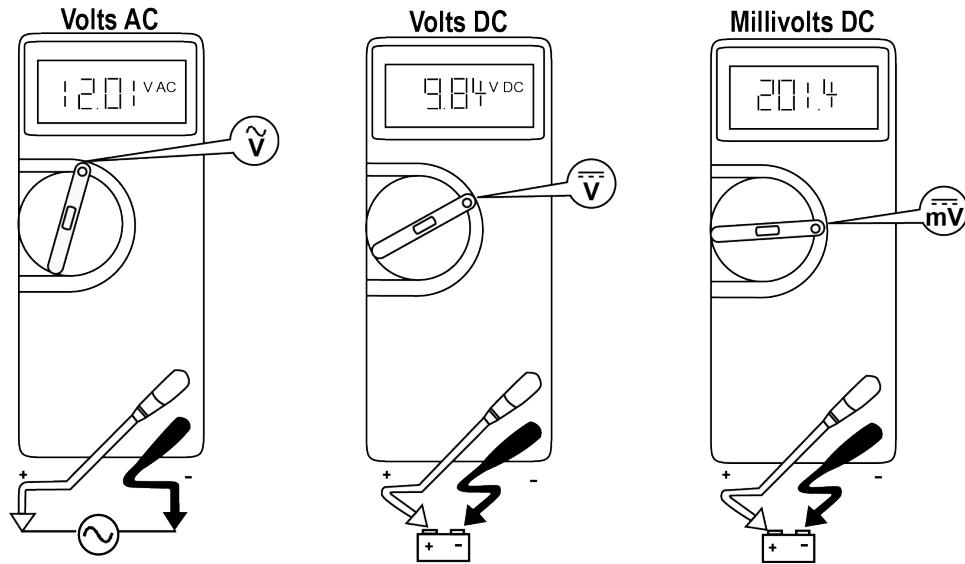

Fig. 1
To select alternating current (AC) or direct current (DC), follow Fig. 1. Most of the testing is done with AC voltage as the main transformer is AC output.
- i** When testing DC voltage, the red lead probe is the positive (+) and the black lead probe is the negative (-). (Fig. 1-Volts DC) This rule does not apply to AC voltage. (Fig. 1, Volts AC)